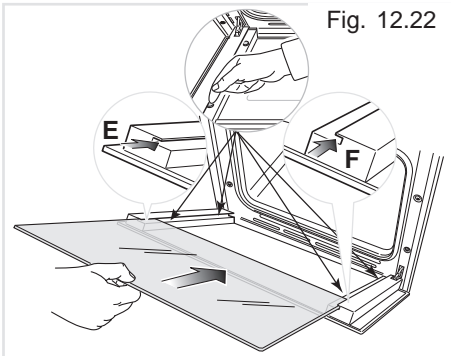
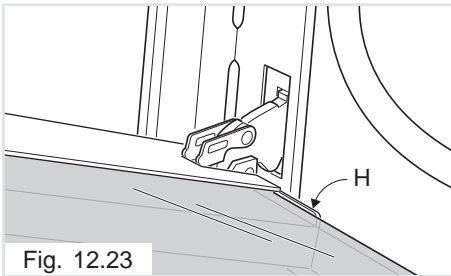

Fig. 12.22
Fig. 12.23
IMPORTANT: It is advisable, while refitting the glass, to keep pressed in position the four rubber pads "D", by a finger, to avoid breakage or slippage of the rubber pads themselves (fig. 12.22).
- Insert the inner pane in the left "E" and right "F" side guides (fig. 12.22) and gently let it slide up to the retainers "H" (fig. 12.23).